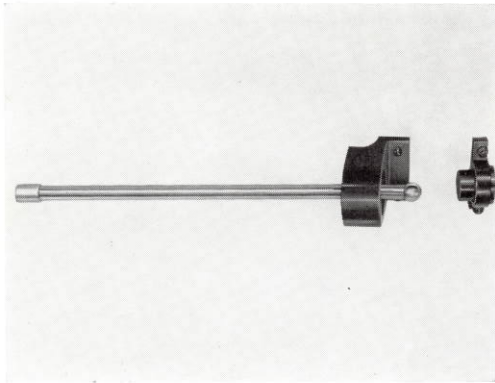
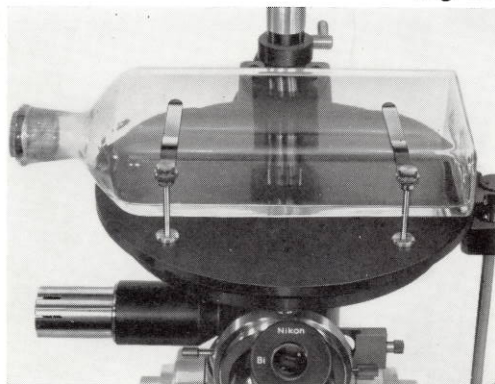

Fig. 30
Fig. 31
- By means of the sliding lever (Fig. 30) the stage is easily moved in the *X* and *Y* directions of the stage with the hand positioned low near the coarse and fine focusing knob. The lever provides great convenience, because the direction in which the specimen moves is the same in which the lever is pushed. Furthermore, the lever which moves the entire top surface of the stage, permits mounting not only of a regular slide, but also of a large metallurgical specimen, a specimen in a culture bottle, etc. (Fig. 31) When a small metallurgical specimen is to be examined, use the coaxial stage rings of 5-20 mm in diameter placed in the center hole of the stage.